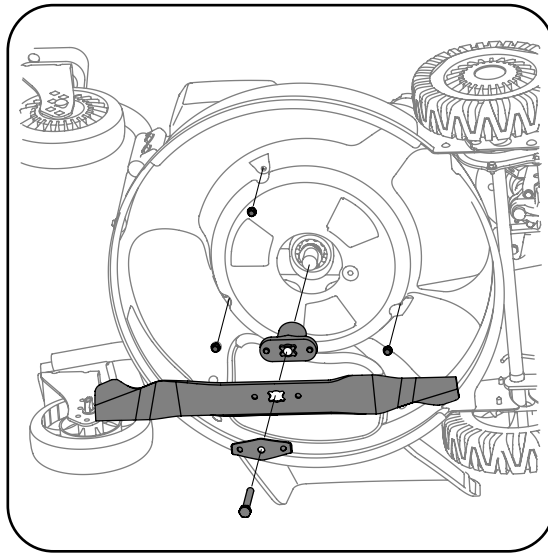

Figure 5-5
5. Remove blade, blade adapter, and related hardware as instructed in Blade Care above. Remove the three hex screws holding baffle to the deck. See Figure 5-5.